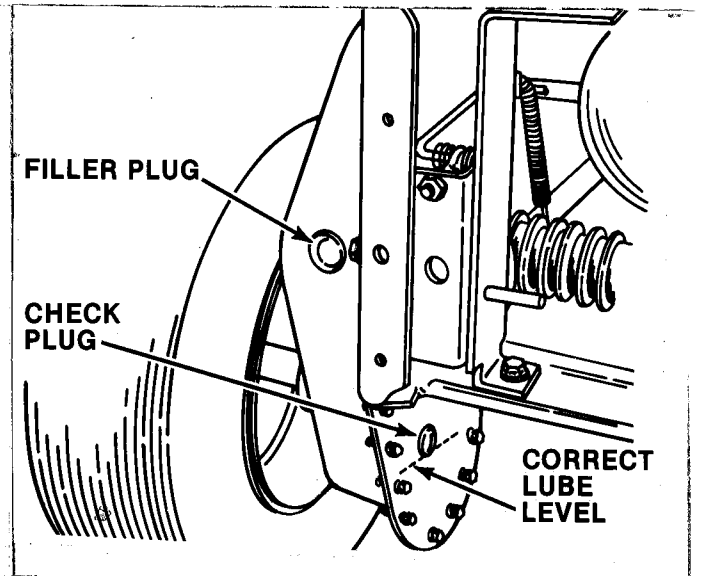

FIG. 12 - TRANSMISSION LUBE LEVEL
- **TRANSMISSION DIFFERENTIAL:** Remove check plug on inside of unit shown in figure 12 to check level of oil. Add Snapper # 0 grease as needed thru upper fill hole to bring the level up to the lower edge of the check plug hole. Reinstall plugs after servicing.